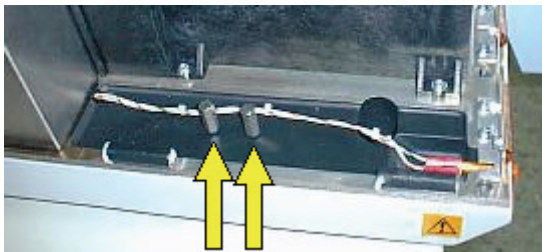

Figure 11 Storing the bolts
9. Store the two hexagonal clamps in their fixing points on the left side of the instrument, as shown in Figure 11.